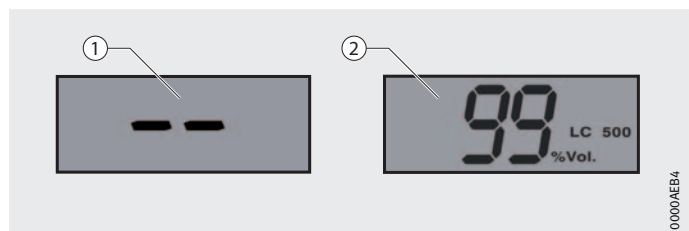

Figure 14
Activate the supply voltage. The reading ①, *Figure 14*, on the display is replaced with the remaining volume reading ②, for example “99 % VOL” for a new LC unit. The green LED flashes and the fault output supplies a high signal (system running) to the connected controller.
- ① Prior to applying the voltage
- ② After applying the voltage
Deactivate the supply voltage; the remaining volume display ②, *Figure 14*, page 16, is extinguished and is replaced by the display ①. All lubricator settings remain stored so that, upon reactivation, the program can continue from the point at which it was stopped.